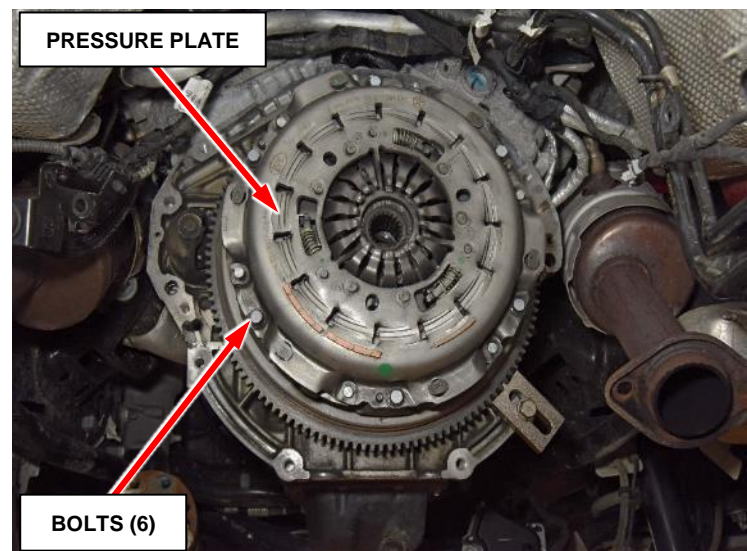

Figure 16 – Clutch Pressure Plate Installed
49. Install the **NEW** clutch pressure plate to the flywheel and **NEW** clutch disc. Finger tighten the clutch assembly to flywheel bolts (Figure 16).